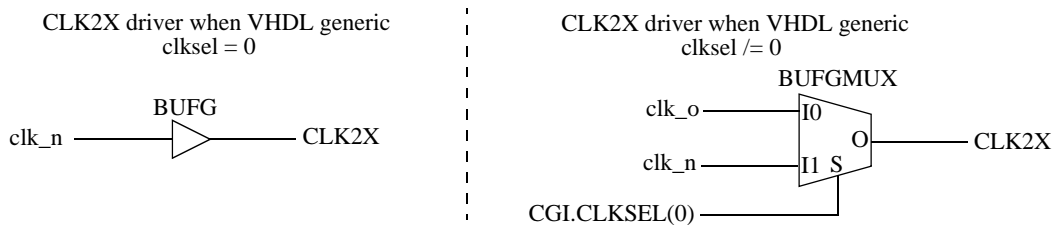
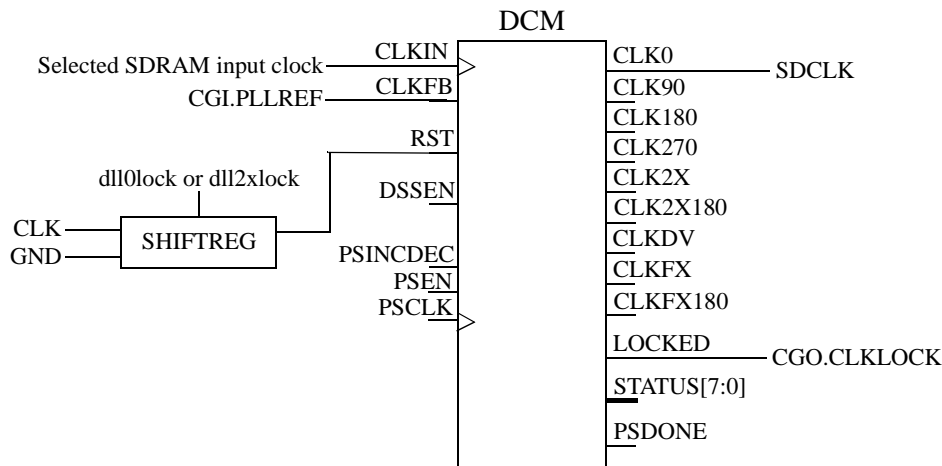

Figure 55. Spartan 3/e selection of CLK2X clock when VHDL generic *clk_{2xen}* is non-zero
Figure 58. Spartan 3/e generation of SDRAM clock
shift register connected to the CLK2X DCM's RST input are set to '1'. When the dll0lock signal is asserted it will take four main clock cycles until the RST input is deasserted. Depending on the value of the *clk_{sel}* VHDL generic the core's CLK2X output is either driven by a BUFG or a BUFGMUX. Figure 55 shows the two alternatives and how the CGI.CLKSEL(0) input is used to selected between the CLK0 and CLK2X output of the CLK2X DCM.
If the SDRAM clock is enabled, via the *sdramen* VHDL generic, and the clock generator is configured to use clock feedback the DCM shown in figure 58 is instantiated. This DCM has the same attributes as the CLK2X DCM. The input to the SDRAM DCM input clock is determined via the *clk2xen* VHDL generic. If the VHDL generic is set to 0 the input is the main CLK, if the generic is set to 1 the input is the *clk_p* out of the CLK2X DCM shown in figure 55. If the *clk2xen* VHDL generic is set to 2 the clock input to the SDRAM DCM depends on the *clkssel* VHDL generic. The input in this last case is the CLK2X output shown in figure 57.
If the SDRAM clock is disabled (*sdramen* VHDL generic set to 0) or the core has been configured not to use clock feedback (*noclockfb* VHDL generic set to 1) the driver of the core's SDCLK output is determined by the value of the *clk2xen* VHDL generic. If the *clk2xen* VHDL generic is set to 2, the SDRAM clock output is the same as the CLK2X output shown in figure 55, in other words it also depends on the *clkssel* VHDL generic. If the *clk2xen* VHDL generic has any other value the SDCLK output is the same as the core's CLK output.